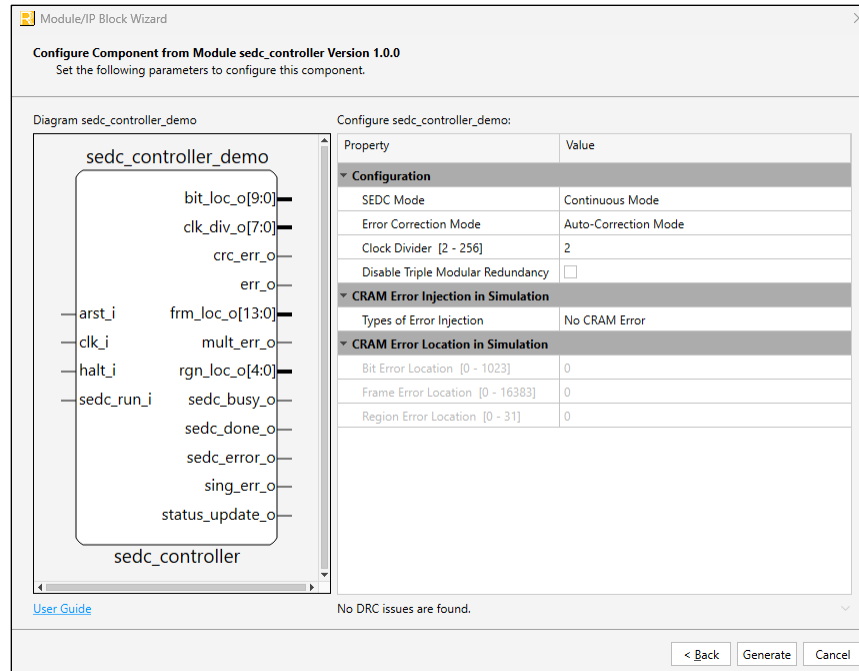

Figure 5.2. IP Configuration
3. In the next **Module/IP Block Wizard** window, customize the selected SEDC Controller IP using drop-down lists and check boxes. Figure 5.2 shows an example configuration of the SEDC Controller IP. For details on the configuration options, refer to the IP Parameter Description section.